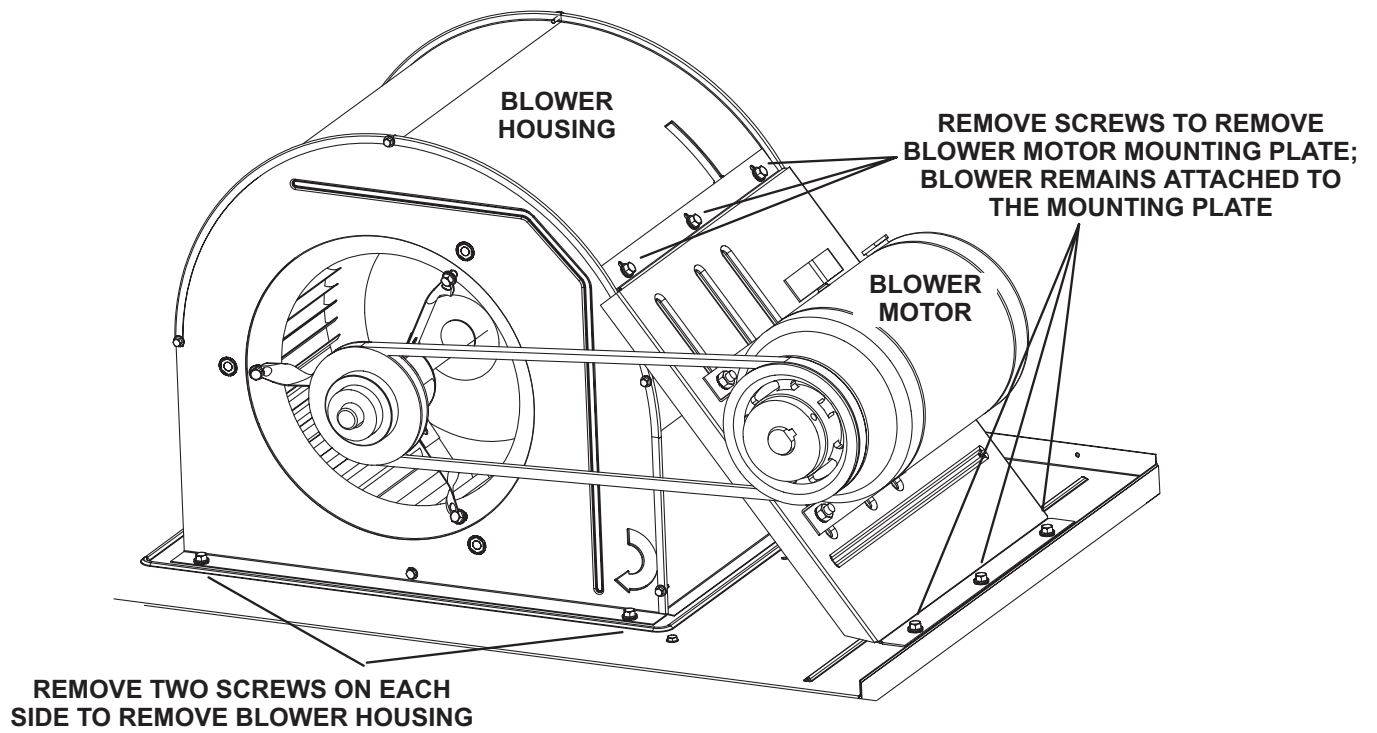

FIGURE 8
- 2 - Remove the motor mounting plate; do not remove the motor from the mounting plate. See FIGURE 8.
- 3 - Remove six screws securing blower housing in place. See FIGURE 8. Pull the housing forward and tip the back upward to remove from unit.